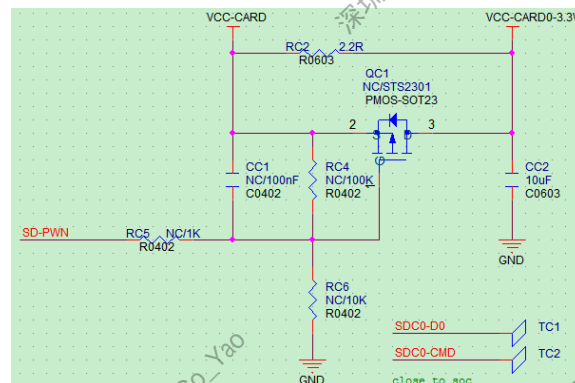

Figure 2-27 The Protect Circuit of VCC-CARD
- For VCC-CARD, it is recommended to use a power switch protection circuit to avoid damaging the system when a bad card is inserted and to improve the power quality of the SD CARD when it is powered on. To reduce the product cost, you can delete this circuit. As shown in Figure 2-27.